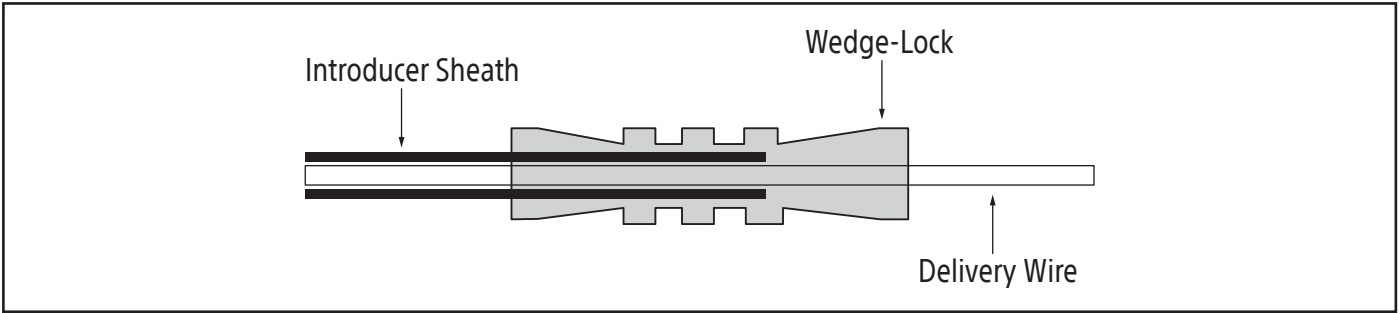
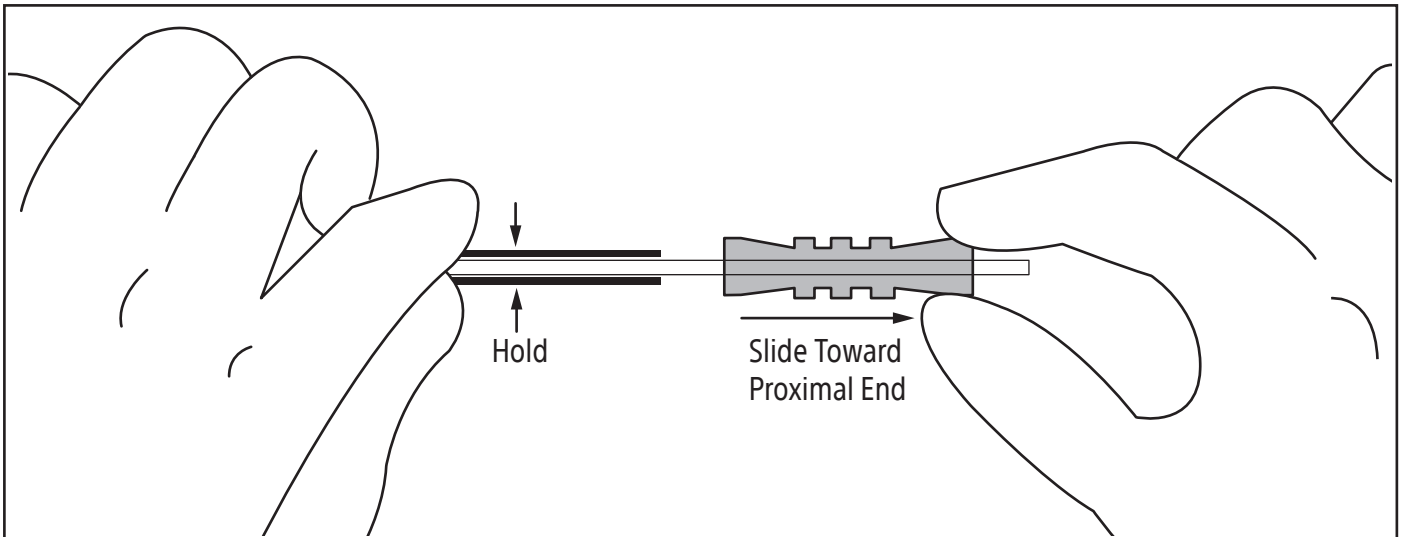

Figure 3. Introducer sheath with wedge-lock mechanism
Figure 4. Unlock by sliding wedge-lock towards proximal end
3. Unlock the EMBOLD Fibered Detachable Coil System from the introducer sheath by holding the introducer sheath just distal to the orange wedge-lock and pulling the wedge-lock proximally (Figure 3, Figure 4). Carefully remove the wedge-lock fully over the delivery wire.